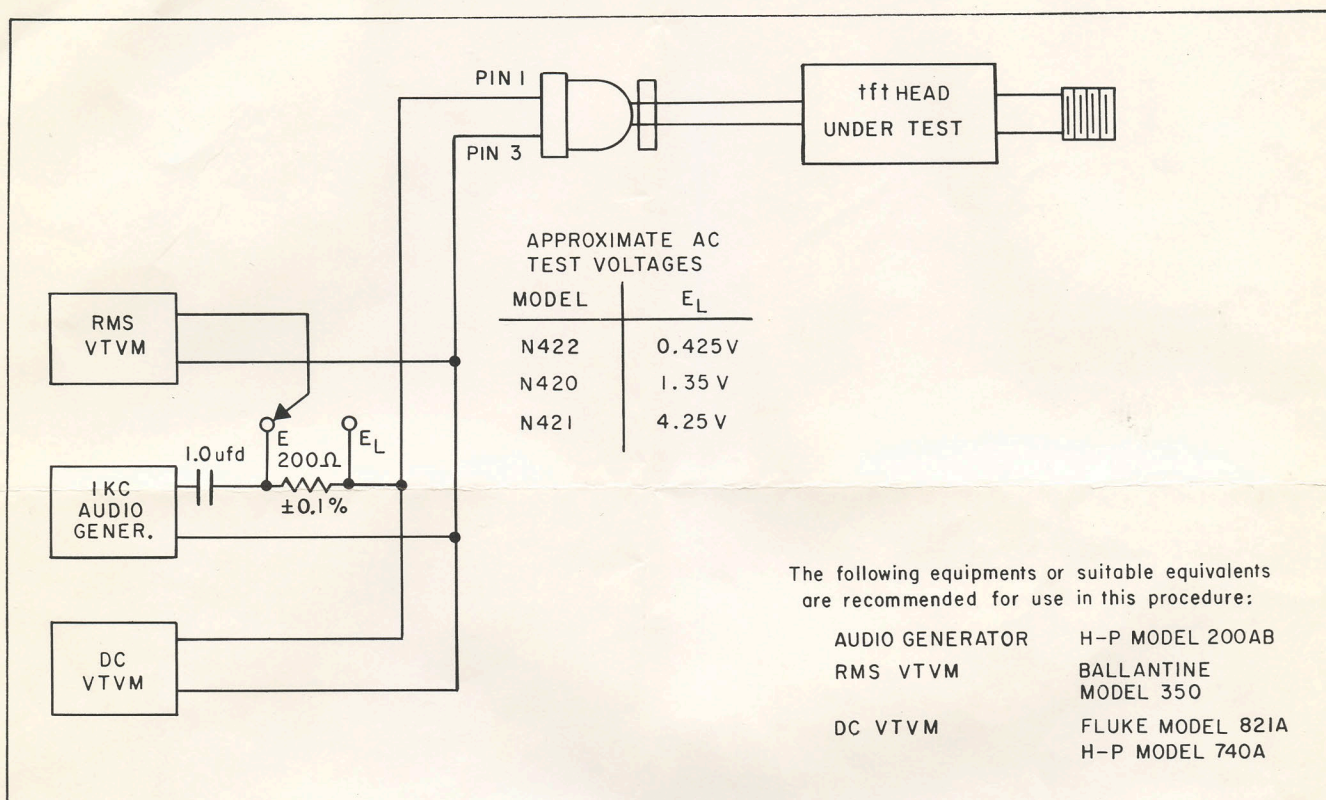

Figure 2. Test Set-Up for Audio Calibration.
1. Connect the tft Power Head as shown in fig. 2. Be sure to observe proper ground connections to avoid spurious ground loops. To check for this, prior to connecting the tft Power Head observe the d-c voltmeter as the a-c generator output is varied. There should be no reading under these conditions. Disconnect the d-c voltmeter and observe that there is no change in the a-c voltmeter reading.